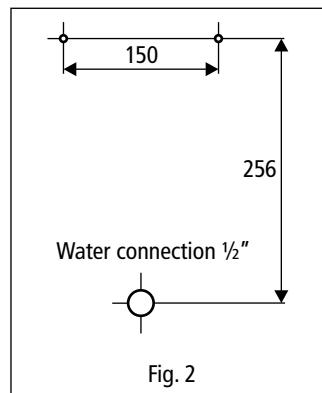

Fig. 2
- Mark and drill holes accordingly (see Fig. 2) and insert 6 mm dowels.